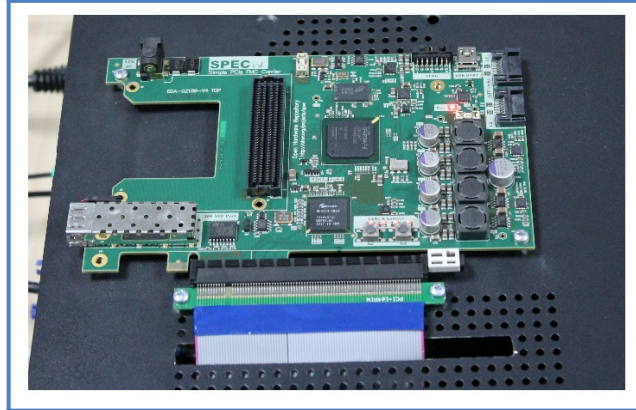

Figure 8: SPEC mounted on the computer cover
- 5) Screw the **SPEC board** on the top side of the computer cover, as Figure 8 shows. Connect one side of the **PCIe extender cable** to the SPEC. Pass the other side of the cable through the dedicated cut of the computer cover.